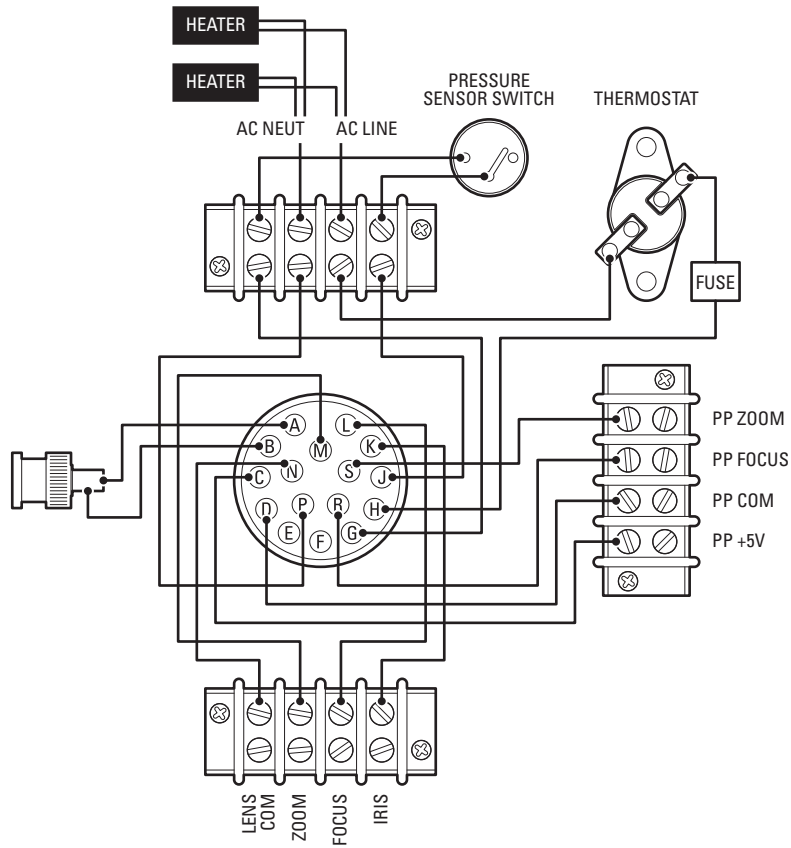

Figure 2. Wiring Diagram
5. Connect the wiring for camera power, lens functions, and video (refer to Figure 2 on page 6).